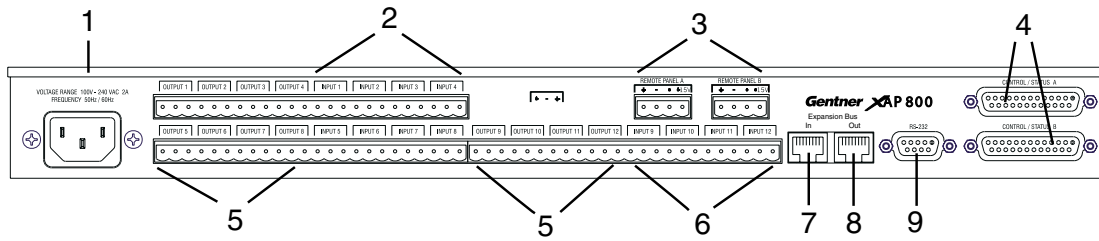

Figure 2. Rear Panel
1. Power This power module (see Figures 2 and 3) accommodates power ranging from 100–240VAC, 50/60Hz. The module uses an IEC-type connector. No switching is required.
2. Inputs 1-8 These Phoenix block connectors (see Figures 2 and 4) are for connection of eight mic-level or line-level (selectable) inputs. These connectors are typically used for mics, but can be configured for use with VCRs, CD players, XAP TH2, etc. These inputs can be mixed in any gated or non-gated combination and routed to any of the 12 outputs. Default input level is -55dBu. For more information about input adjustments, see page 37. For electrical specifications, see Appendix A: Specifications.
3. RS-485 Remote Panel A/B Port These four-pin Phoenix connector ports (see Figures 2 and 5) allow you to control the XAP 800 with the Gentner Control Panel.
4. Control/Status Ports A and B These two female DB25 connectors (see Figures 2 and 6) are for connecting control devices to the XAP 800. The control devices have access to the command set for the XAP 800 and can be used for common functions such as volume control, muting, preset change, room combining, etc. Devices can be connected to either port.
5. Outputs 1-12 These three-pin Phoenix connectors (see Figures 2, 7, and 8) is for connection of twelve line-level balanced outputs with three-pin Phoenix connectors. These outputs are typically used for connection to
6. Inputs 9-12 These Phoenix connectors (see Figures 2 and 9) are for connection of up to four line-level inputs. These are typically used for connection of VCRs, tape players, CD players, and other audio sources. They can be routed to any output or multiple outputs. Nominal level is 0dBu.
7. Expansion Bus In This RJ-45 connector (see Figures 2 and 10) is part of the Expansion Bus (E-Bus), which allows up to eight XAP 800 or other compatible Gentner units and up to 16 XAP TH2 units to be networked together. The E-Bus consists of two buses: one for control, the other for passing audio and mic information (see Control Link, page 7). Using Cat 5 twisted-pair cable, you can separate adjoining units up to 80 feet (24 meters). The first XAP 800 unit in the Expansion Bus network must have the EXPANSION BUS IN connector terminated with an Expansion Bus terminator. The first XAP 800's EXPANSION BUS OUT connector is attached to the EXPANSION BUS IN connector on the next XAP 800, forming a daisy-chain network. See the diagram on page 8.
8. Expansion Bus Out This RJ-45 connector (see Figures 2 and 10) is used for connecting additional XAP 800 units. The last XAP 800 in the local Expansion Bus network must have the EXPANSION BUS OUT connector terminated with an Expansion Bus terminator. The first XAP 800's EXPANSION BUS OUT connector is attached to the EXPANSION BUS IN connector on the next XAP 800, forming a daisy-chain network. See the diagram on page 8.
9. RS-232 This female DB9 serial port (see Figures 2 and 11) is for interconnection between the XAP 800 and a PC, modem, or other custom remote controller. For serial protocol, see Appendix B: Connector Pinouts.
Begin by placing the XAP 800s in their proper locations. The Expansion Bus In and Expansion Bus Out RJ-45 connectors (see Figures 2 and 10) on the back panels are designed for connecting multiple XAP 800 units. Expansion Bus connections between units are made in a daisy-chain fashion using category five twisted-pair cable.